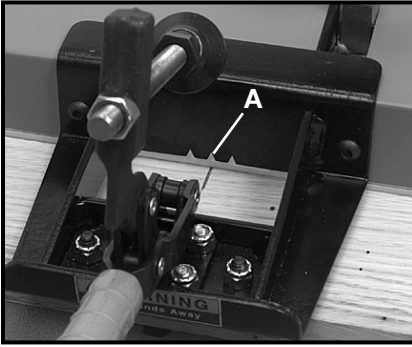

Fig. 19
2. Place the workpiece into the machine, face side up, aligning the mark on the workpiece with the center notch (A) Fig. 19, on the machine, and seat the work firmly against the fence.